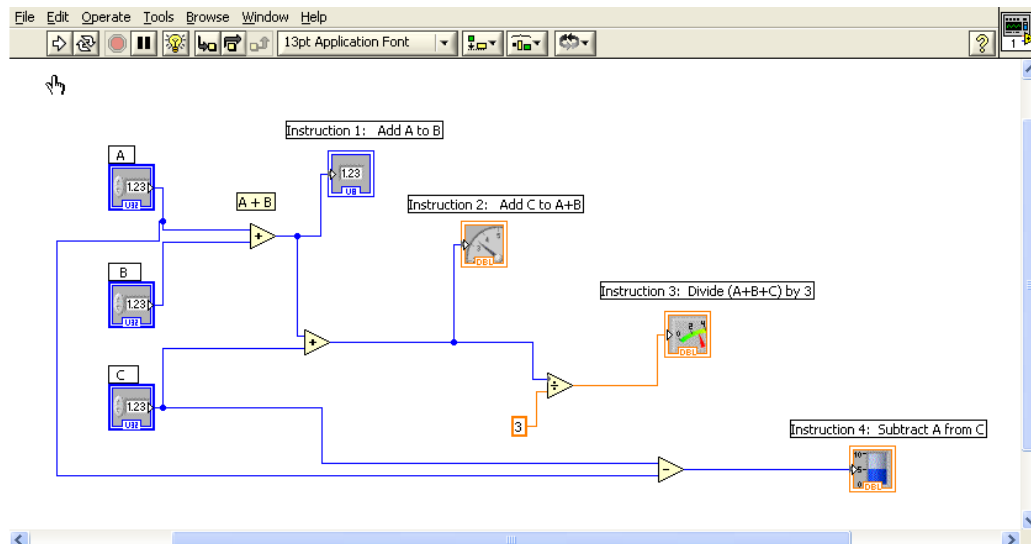

Fig. 1-2. Block Diagram of LabView: this is the logic diagram used to construct the GUI shown in Figure 1-1b.
LabVIEW programming consists of drawing pictures that specify data dependencies. The LabVIEW programming environment includes a large set of blocks to specify operations and a Wiring tool to connect them together. As an example, Figure 1-2 shows the operations associated with the set of instructions from Figure 1-1a.
- 1) the code is in one window (block diagram), as shown in Fig. 1-2; and